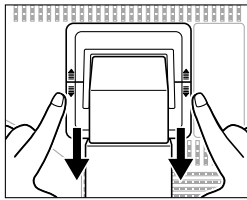

Figure S.2
4. Press the "▼" portion with your index finger and at the same time slide the lower stand cover. (Figure S.2)